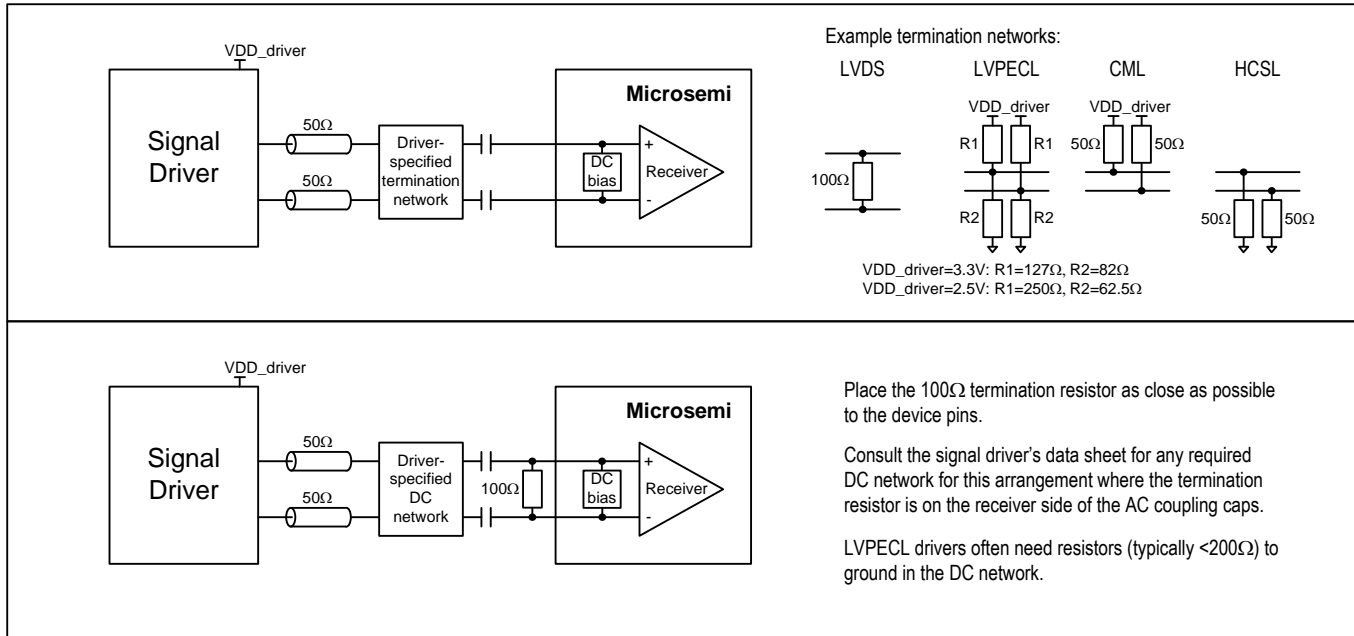

Figure 14 - Example External Components for Differential Input Signals
- Note 3: Differential signals.** The differential inputs can easily be interfaced to neighboring ICs driving LVDS, LVPECL, CML, HCSL, HSTL or other differential signal formats using a few external passive components. In general, Microsemi recommends terminating the signal with the termination/load recommended in the neighboring component's data sheet and then AC-coupling the signal into the ICxP/ICxN pins. See Figure 14 for details. To connect a differential signal to IC3, AC-couple one side of the signal to IC3P and AC-couple the other side to VSS. For DC-coupling, treat the input as 1.8V CML.